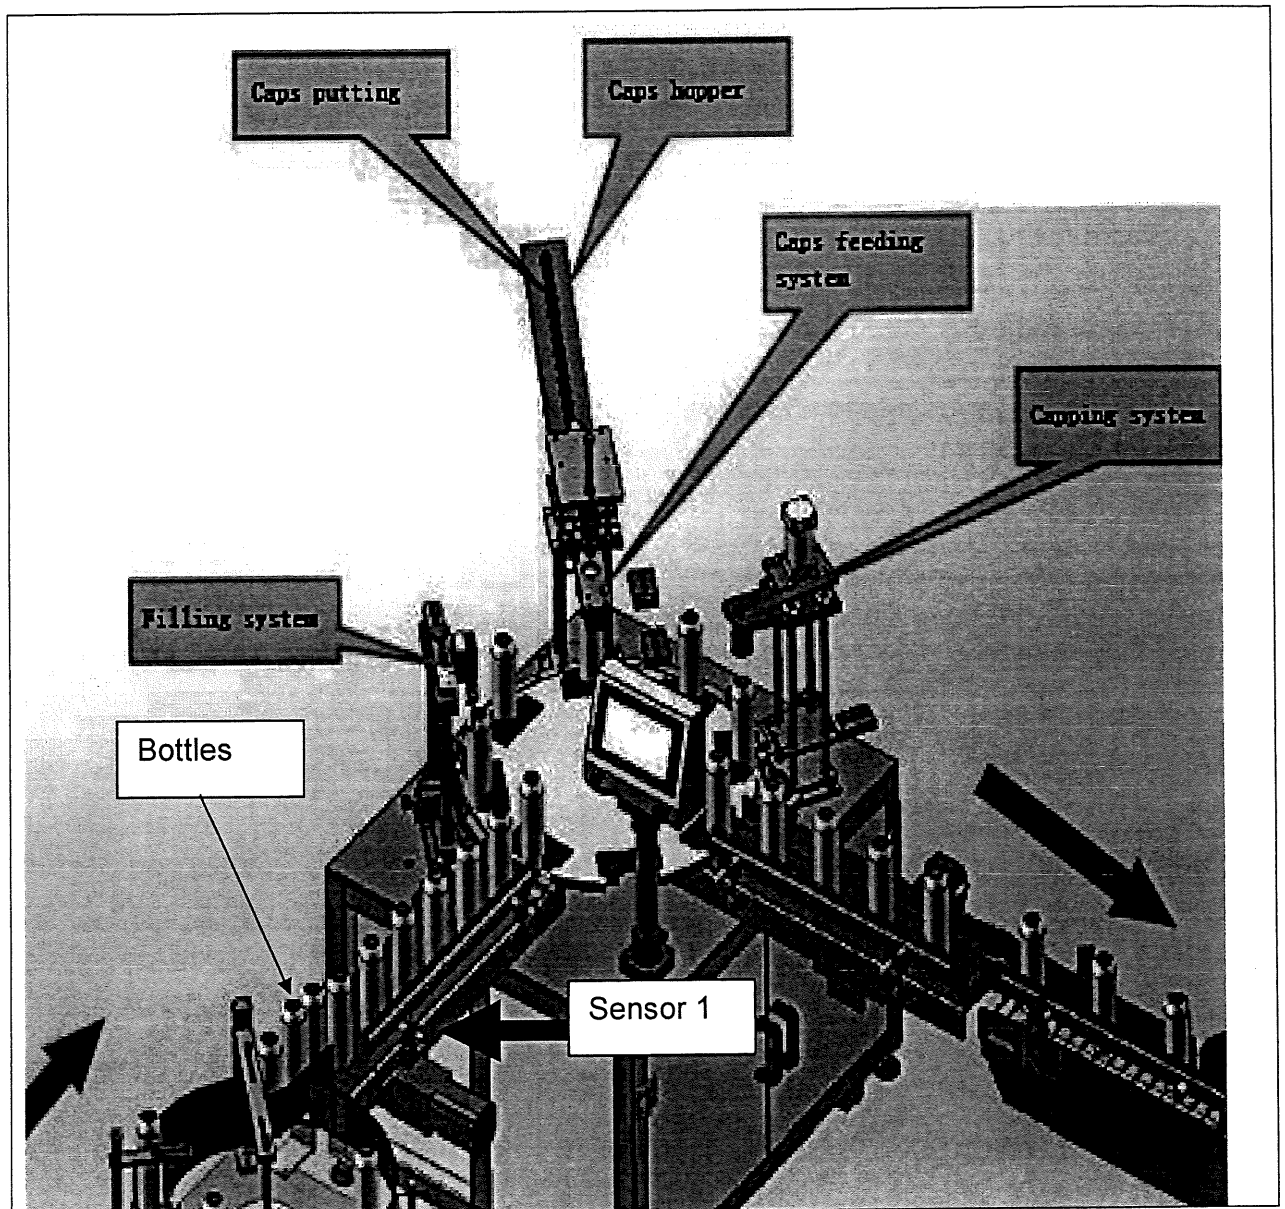

Figure 4
- b) Figure 4 displays, an automatic filling and labeling machine, that consists of 4 steps. First we verify the bottle is in good condition. Next we fill in water inside the bottle. Then we place a bottle sealer and finally we eject the completed bottle to the next station. If the bottle is in bad condition, we need to reject it. Therefore we need to track the bad bottle in the process line so that we can tell the system not to do each task. We use a sensor to look at the bottle condition. An encoder tracks the bottle going along the conveyor.